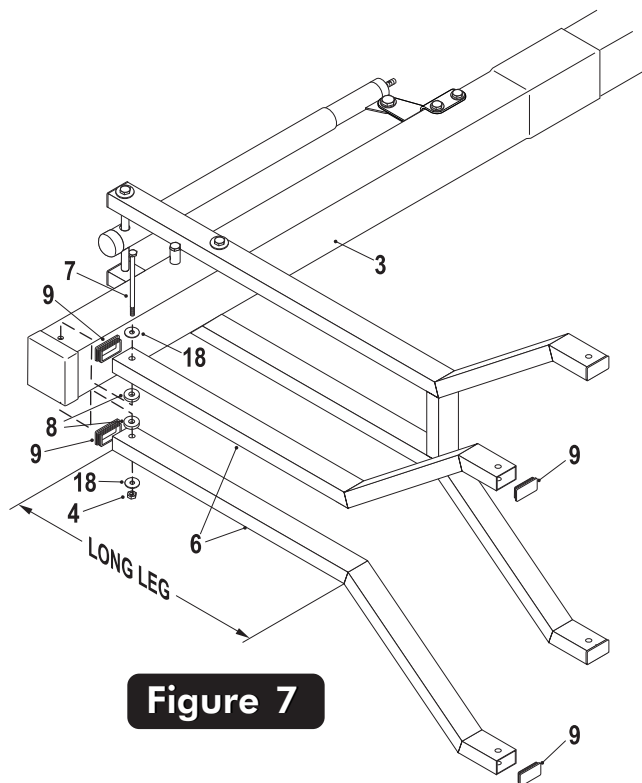

Figure 7
11. Attach long leg of Upper Arms (#6) to Top Pole (#3), as shown in Figure 7, using a bolt (#7), two flat washers (#18), two spacers (#8) and one lock nut (#4).
12. Insert four Tube Plugs (#9) into open ends of Upper Arms (#6). It may be necessary to use a rubber mallet to tap plug in. See Figure 7. **Note: Tube plugs may be pre-installed by the factory.**